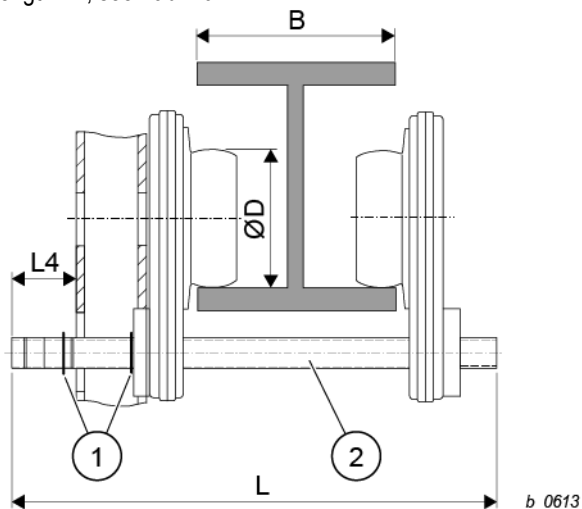
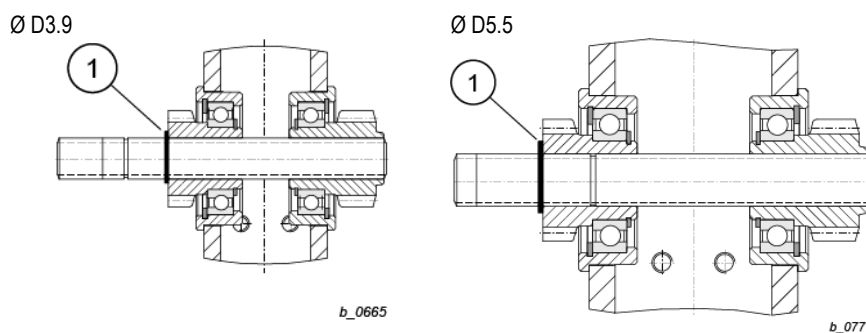

Fig. 71
Fig. 72
- Assemble retaining rings (1) per Fig. 71 and Fig. 72.